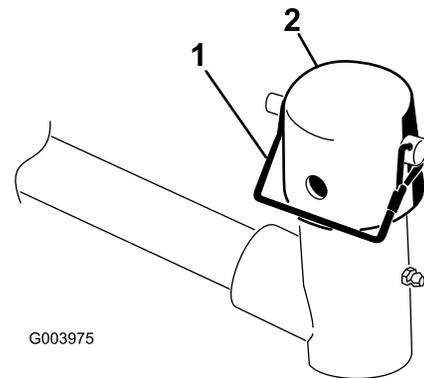

Figure 7
6. Remove the snapper pin and the cap from the lift arm pivot yoke (Figure 7).
10. Secure the cap and the carrier frame shaft to the lift arm yoke with the snapper pin. Use the slot if a steering cutting unit is desired or use the hole if the cutting unit is to be locked in position (Figure 7).